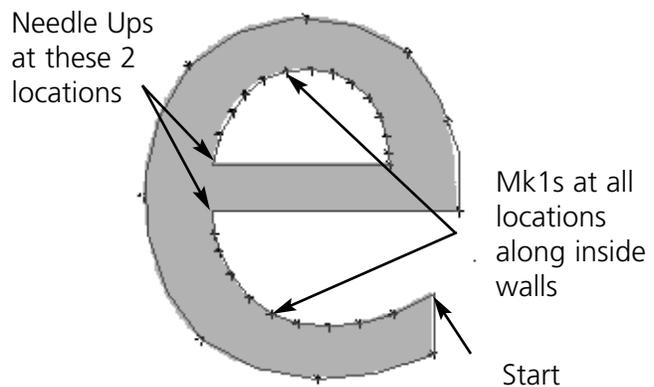

Figure 3-14
1. Enter Mk1s along the inside edge of the tail of the letter **e**. Generate these Mk1s at intervals that will allow the straight lines between them to stay closely aligned with the boundary of the wall (see Figure 3-14).
2. When you get to the crossbar put a Mk1 in the corner (see Figure 3-14).